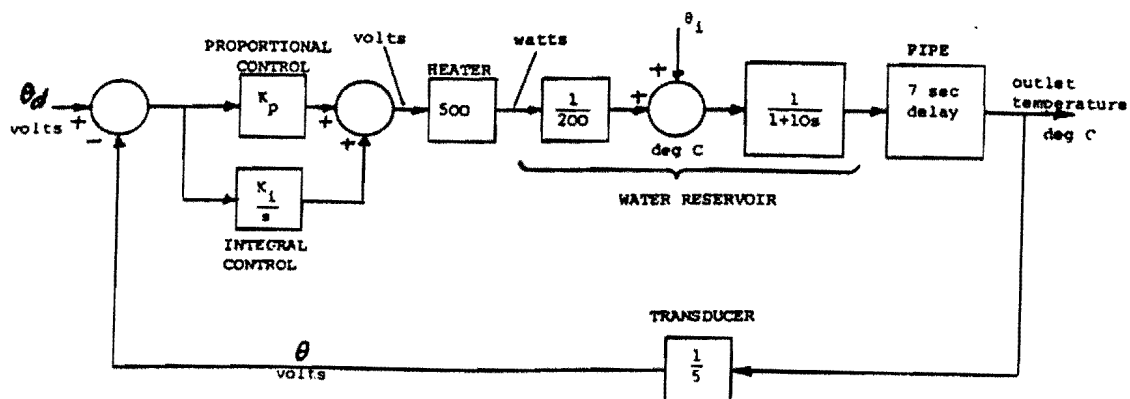

Fig. 2
4. * Figure 2 shows a block diagram of the shower heater control system used in laboratory experiment 7 ('Process Control'). The voltage θ_d represents a desired water temperature setting, θ represents the outlet water temperature after it has been transduced into a voltage, and θ_i is the inlet water temperature (in °C).